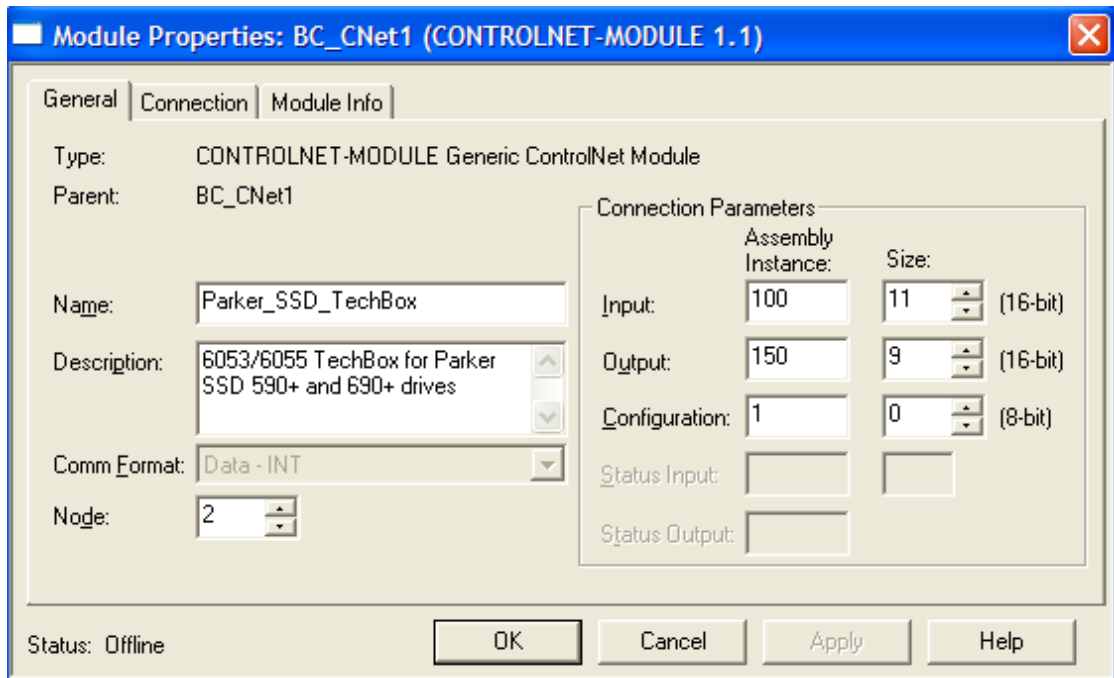

Figure 12. Defining the Module Name and Data Size
- Module properties window allows you to name the module and to set the network address, data type (data-int), and data size. The input assembly instance is 100 and the size is the configured number of words plus 2. The output assembly instance is 150 and the size is the number of words you are sending to the TechBox. The configuration assembly instance is 1 and the size is 0. The Comms Format is set for "DATA-INT" to allow transferring 16 bit words. Refer to Figure 12.